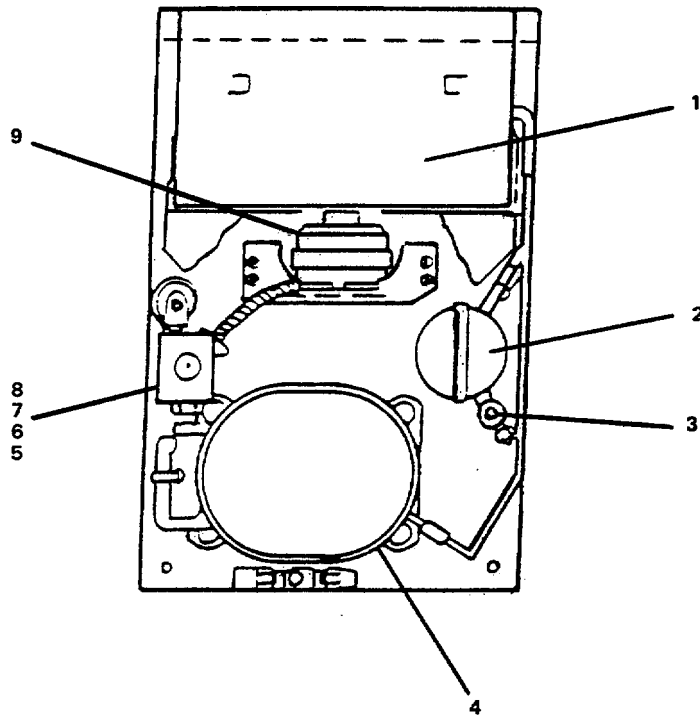

FIGURE 3-75. Repair Refrigeration Condenser.
- e. Install light socket (3).
- f. Install lamp shield (2).
- g. Install pilaster (6).
- h. Install shelf (4).
- i. Install pilaster clip (50).
- j. Install access door hinge (8).
- k. Install latch assembly (9).
- l. Install thermometer (1).
**3-77. Repair R-20 Refrigerator - Refrigeration Condenser. (Figure 3-75)**